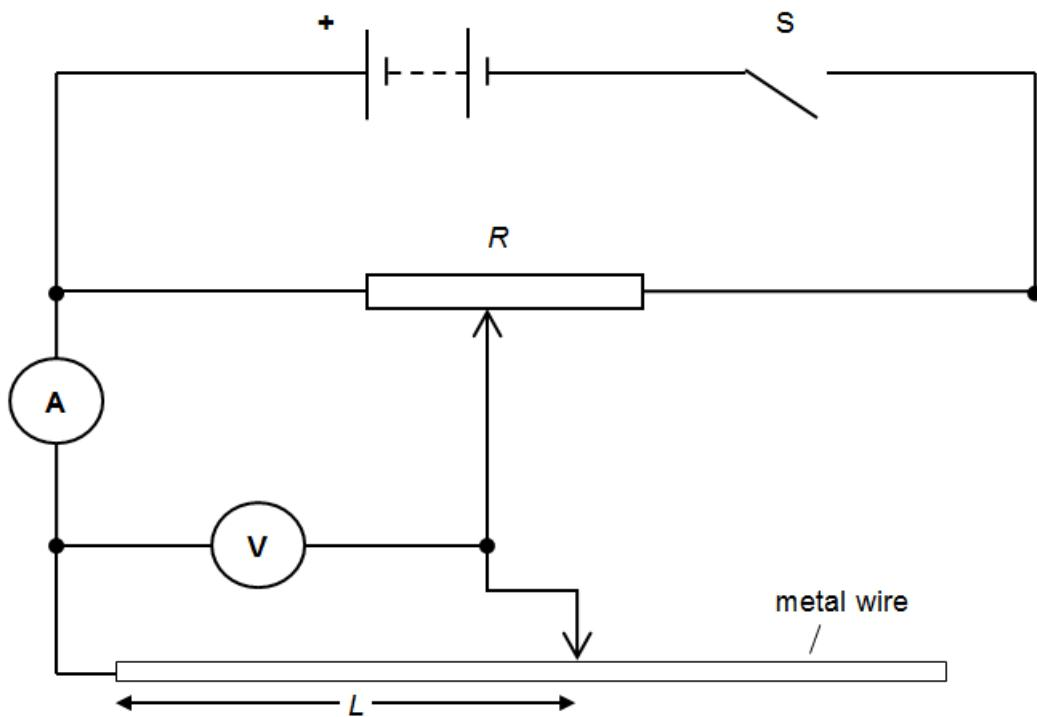

Fig. 1
- Set up the circuit shown below in Fig. 1, so that the d.c. supply is in series with an external switch, S, and the metal wire. The length of wire in the circuit is adjusted and connected into the circuit using crocodile clips.